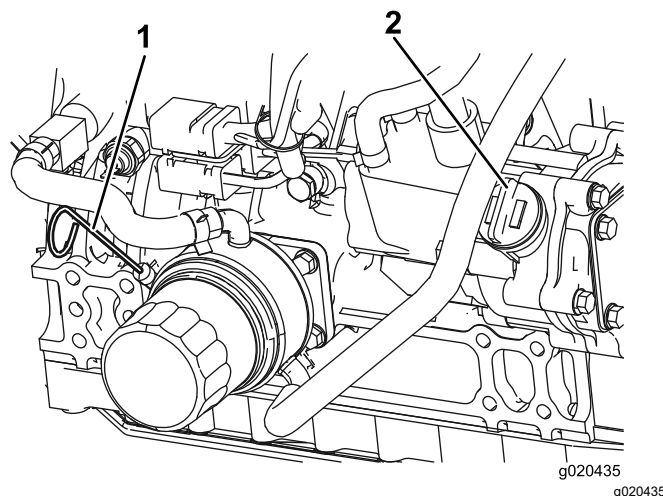

Figure 73
The oil level should be in the safe range (Figure 73).
4. If the oil is below the safe range, remove the fill cap (Figure 73) and add oil until the level reaches the Full mark.